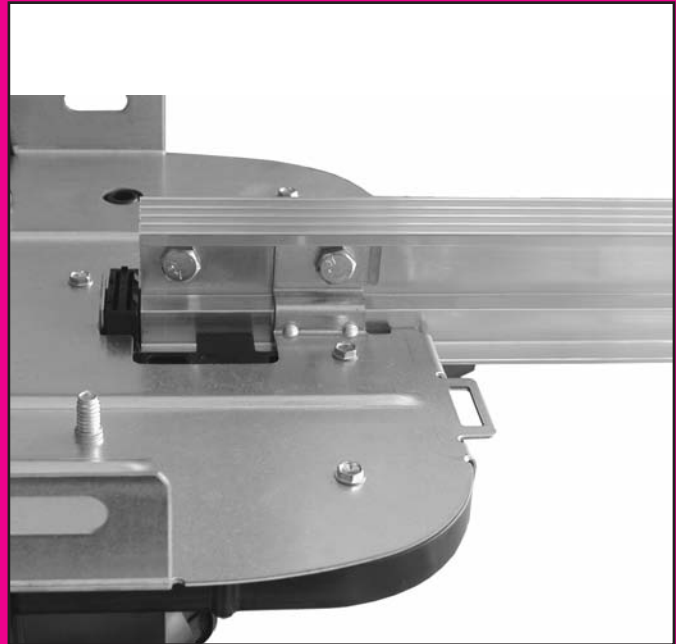

FIG. 1-5 Attach boom to power head.
- Securely fasten with 2 bolts (9) and nuts (10) (**Fig. 1-5**).